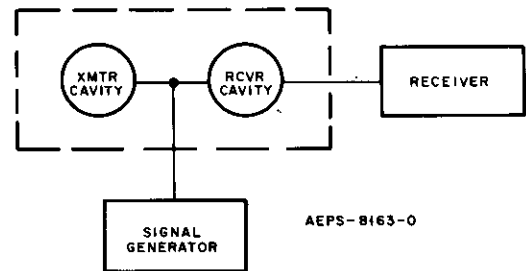

Figure 8. Method 2 Receiver Branch Pass Test Set-Up
Step 5. Connect the equipment as shown in Figure 8.
Step 3. Connect the equipment as shown in Figure 8.